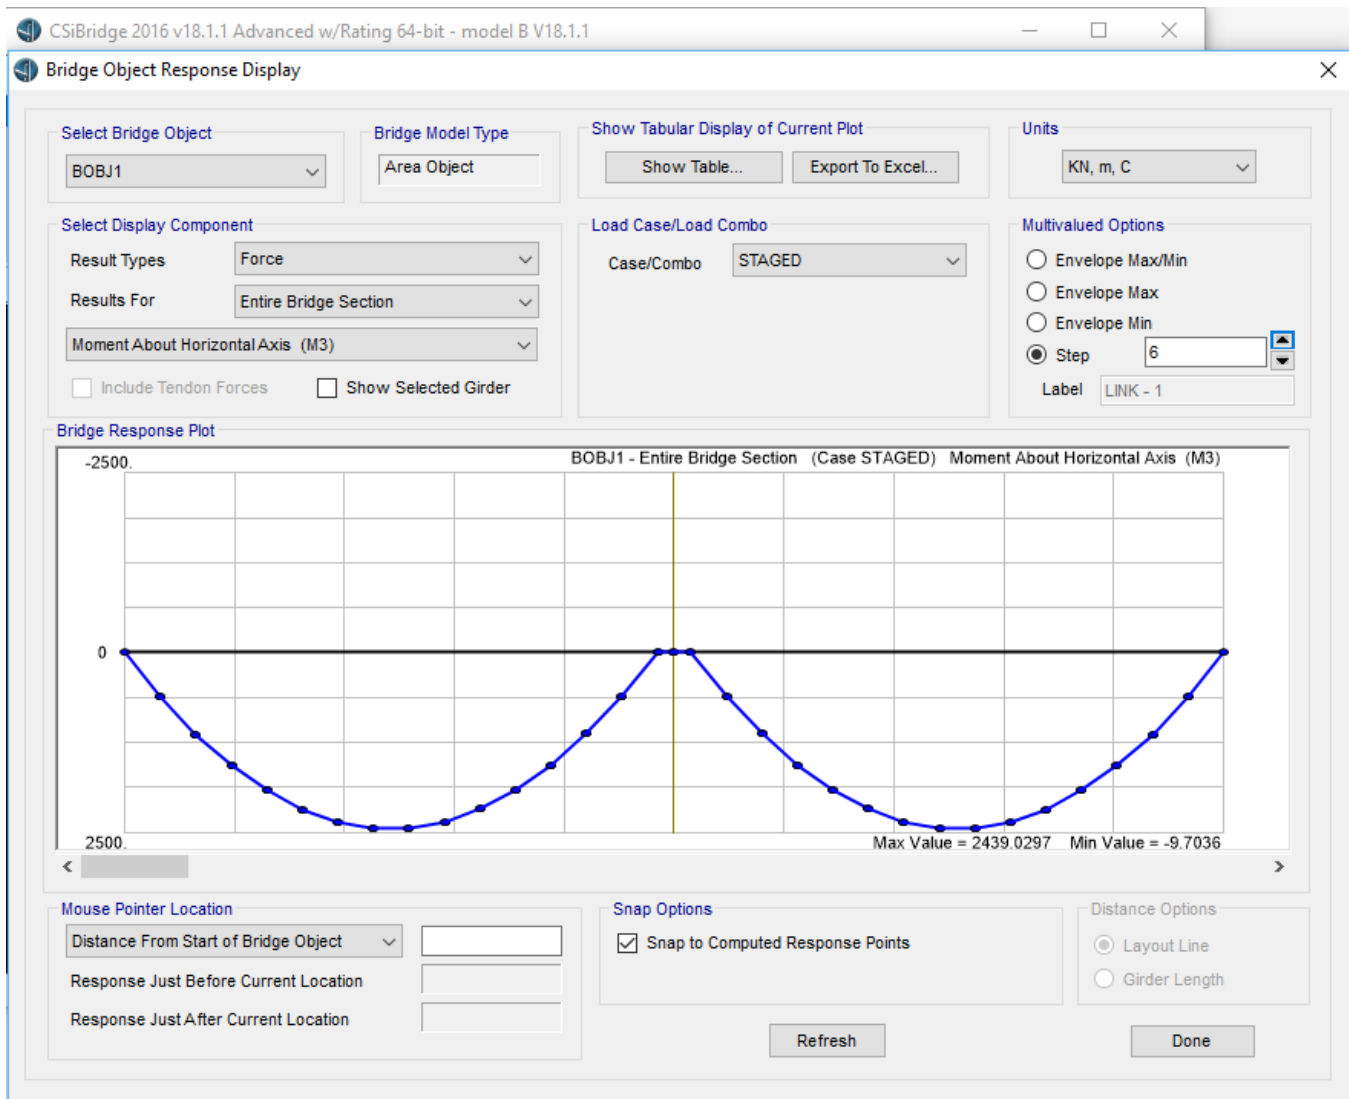

Figure 2: Moment diagram at the end of staged construction (simply supported superstructure)
- Check bridge forces and stresses for each step of the staged construction analysis to ensure that moments are as expected for a simply-supported condition, see Figure 2.